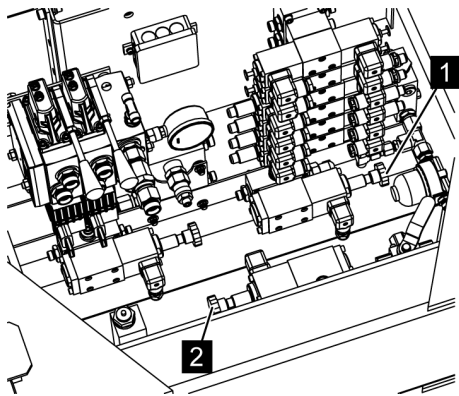

Fig. 117: Shuttle valves
4. → For outrigger operation, lock the shuttle valves (Fig. 117/1 and 2).